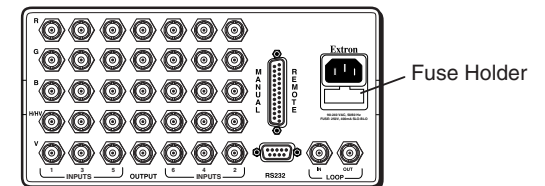

Figure 33 — Opening the fuse holder
2. Insert a small screwdriver blade into the slot provided at the top of the fuse holder, and pry the holder open (figure 33).